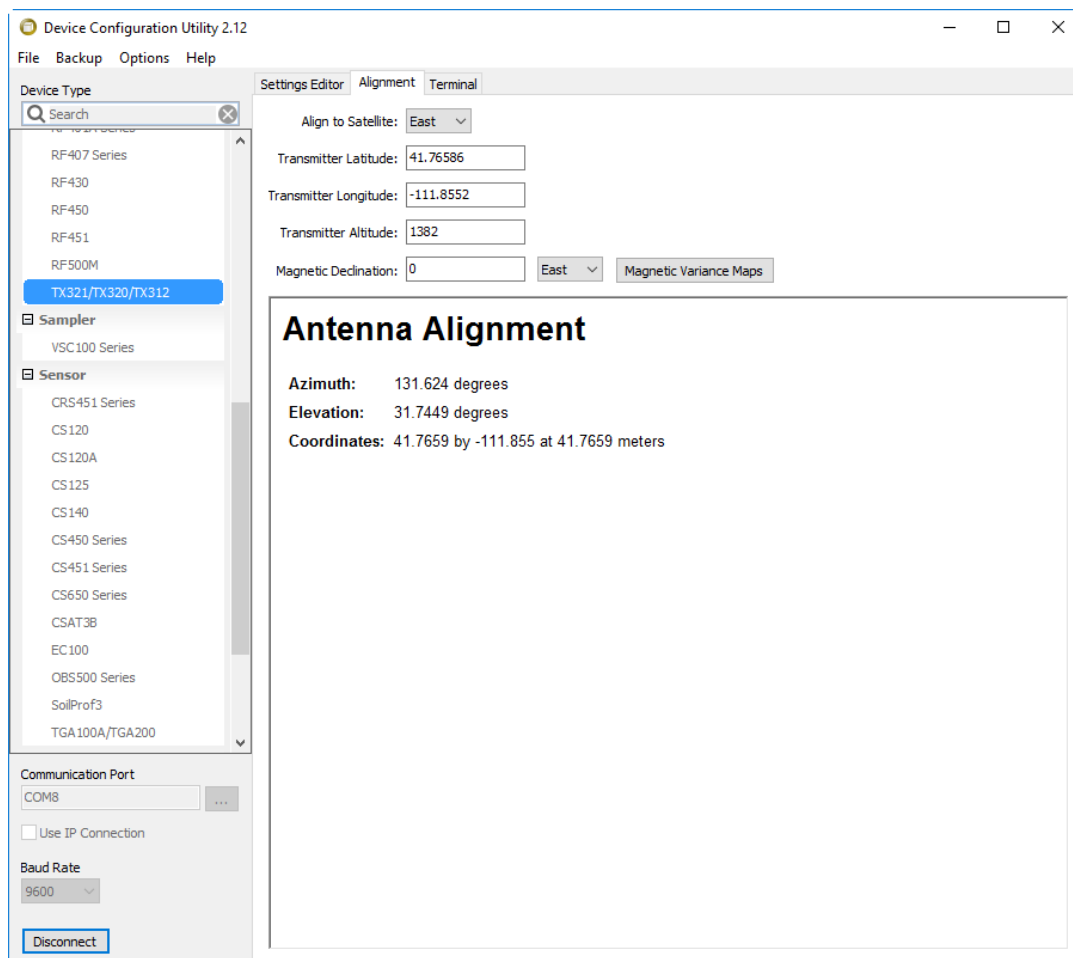

FIGURE 4-4. Alignment Tab in DevConfig
3. Aim the Yagi antenna at the spacecraft; azimuth and elevation angle positions are included on the bracket label. The **Alignment** tab in *DevConfig* can be used to determine the correct coordinates for the azimuth and elevation (see FIGURE 4-4). From the **Align to Satellite** list, select either the **East** or the **West** satellite, type the **Transmitter Latitude**, **Transmitter Longitude**, **Transmitter Altitude**, and the **Magnetic Declination**. The correct angles are then displayed in the lower panel.